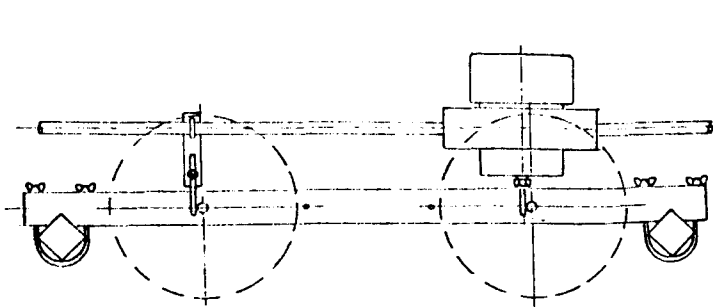

FIGURE 2A
19. Using the router bit and stylus set-up, align the front center bushings horizontally so that their span is the same as the router bit and stylus span. Also, align vertically until both bushings touch the tip of the router bit and stylus. See Figure 2A and 2B.